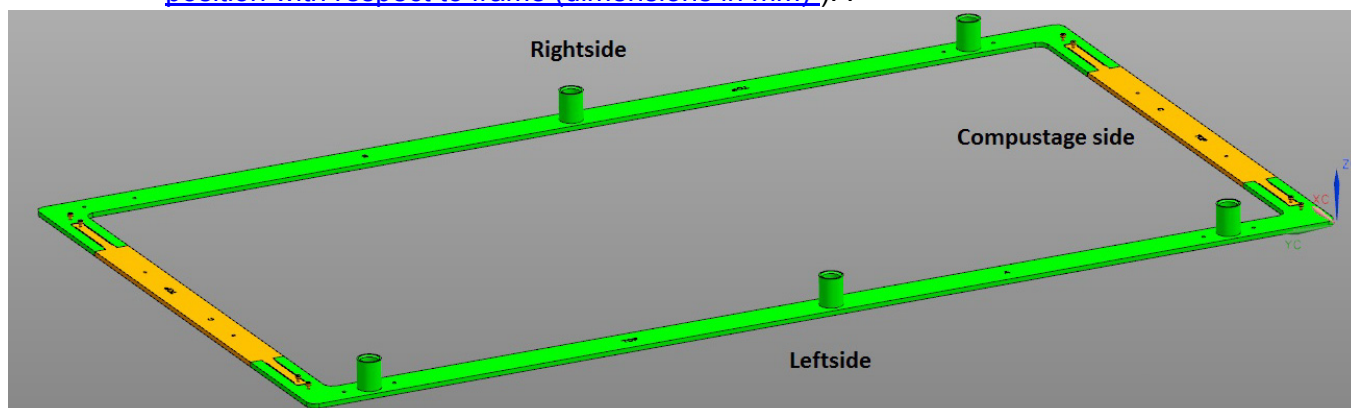

Figure 42: Positioning drilling jig.
2. Clamp the drilling jig parts together with ty wraps, as shown in Figure 42